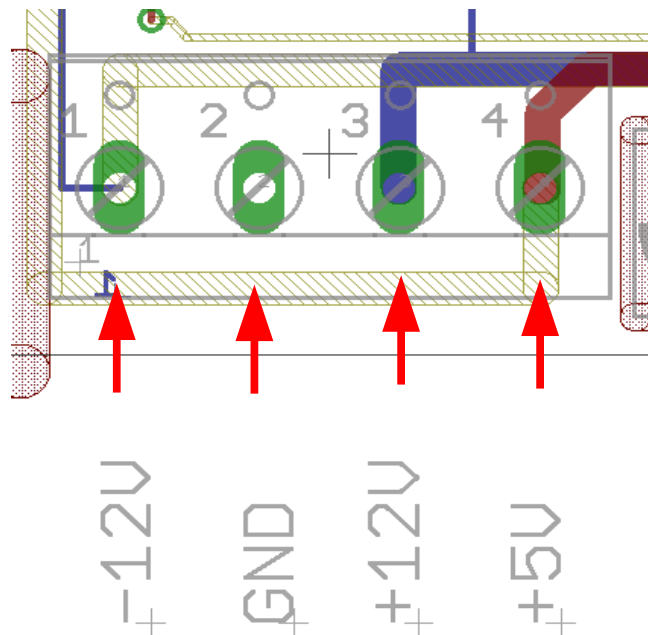

Figure 26: Avoid Tracks near Screw Clamp
4. In the proximity of screw clamps or connectors the board is probably going to be stressed heavily. Avoid tracks in top layers where wires are inserted. In Figure 26 red arrows indicate the direction wires are inserted from. They may **disrupt** a track or scratch the solder stop lacquer – **danger of shorts !**